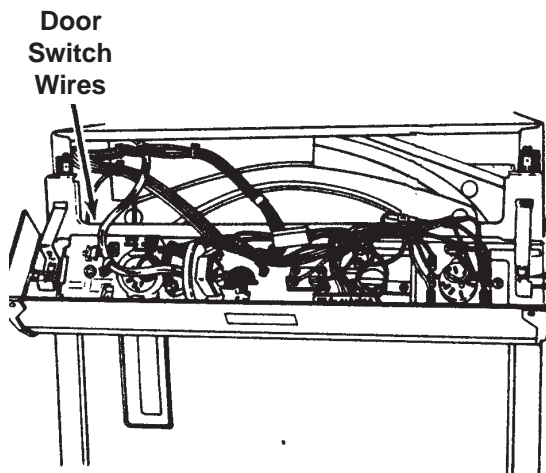

Fig. 5-26
2. Flip down the Control Panel. (Fig. 5-26)